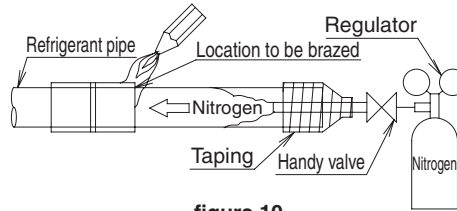

figure 10
- Be sure to perform nitrogen permutation or nitrogen blow when brazing. (Refer to figure 10) Brazing without performing nitrogen permutation or nitrogen blow into the piping will create large quantities of oxidized film on the inside of the pipes, adversely affecting valves and compressors in the refrigerating system and preventing normal operation.